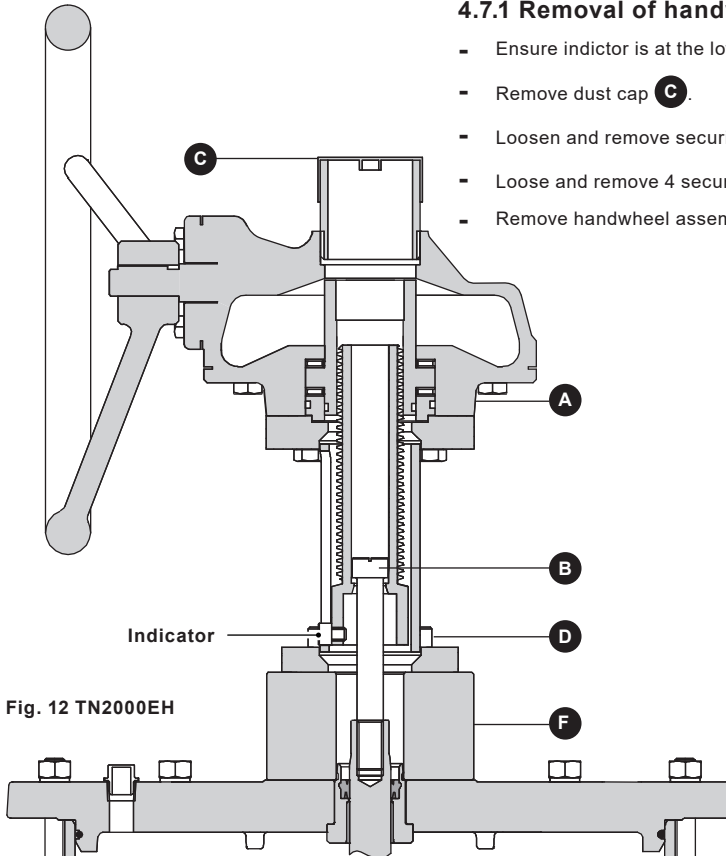

Fig. 12 TN2000EH
- Remove the cover (21) from the actuator, see Figure 12.